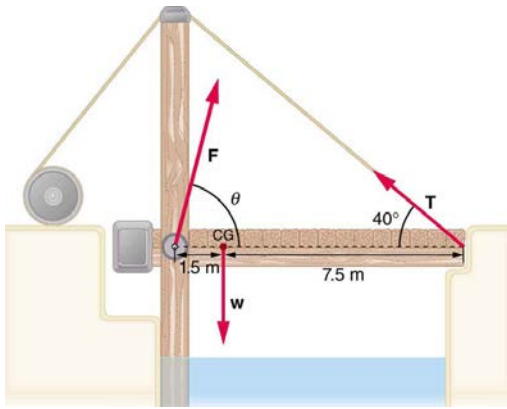

Figure 9.34 A small drawbridge, showing the forces on the hinges (F), its weight (w), and the tension in its wires (T).
12. Suppose the weight of the drawbridge in **Figure 9.34** is supported entirely by its hinges and the opposite shore, so that its cables are slack. (a) What fraction of the weight is supported by the opposite shore if the point of support is directly beneath the cable attachments? (b) What is the direction and magnitude of the force the hinges exert on the bridge under these circumstances? The mass of the bridge is 2500 kg.
13. Suppose a 900-kg car is on the bridge in **Figure 9.34** with its center of mass halfway between the hinges and the cable attachments. (The bridge is supported by the cables and hinges only.) (a) Find the force in the cables. (b) Find the direction and magnitude of the force exerted by the hinges on the bridge.